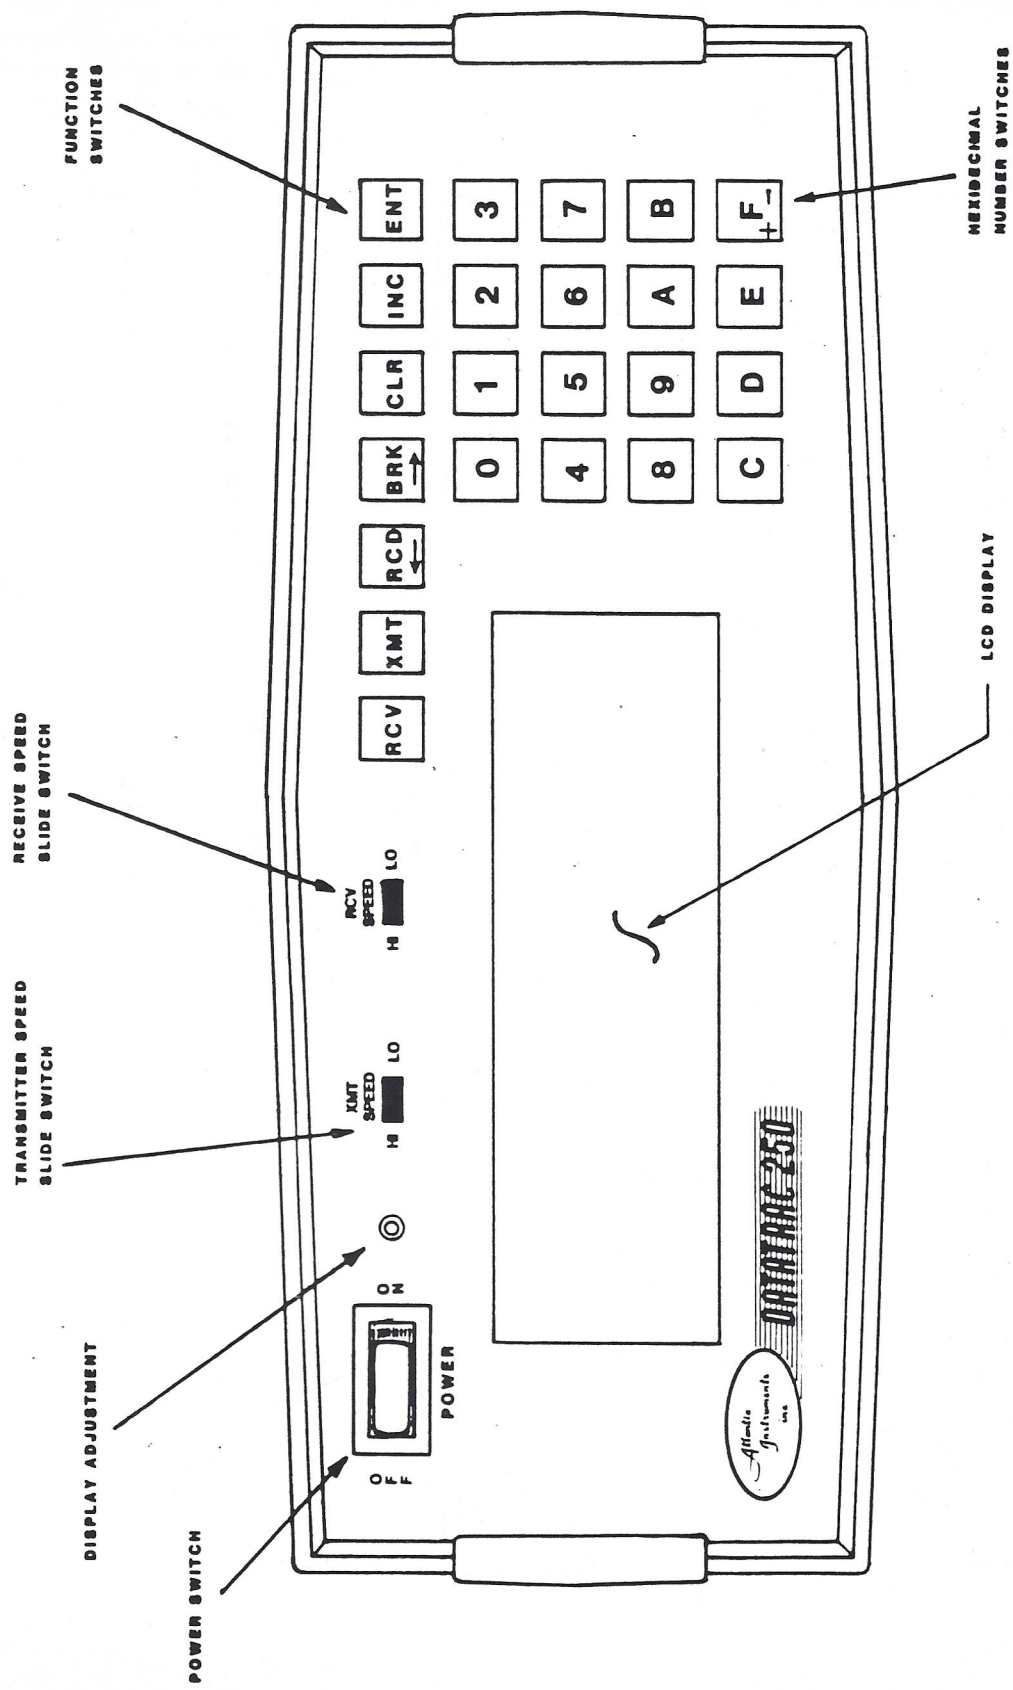

FIGURE 1-1
The front and rear views of the unit are illustrated in Figures 1-1 and 1-2, respectively. The eight line display allows viewing of many data words simultaneously. It also supports a highly simplified setup of functions through the use of menu screens.
The display may be adjusted for contrast and viewing angle with a pot located on the front panel next to the power switch as shown in Figure 1-1.
This section provides detailed instructions for operation of all functions of the DATATRAC 250. Independent subsections are dedicated to the two different bus standards: ARINC 429 and ASCB. A highly consistent format is used in the menu driven setup of all modes. Figures 1-1 and 1-2 containing illustrations of the front and rear views of the unit will be referred to frequently in the text.
Whether the operator has selected A429 or ASCB, four basic modes or functions are available to aid in the development and testing of the digital systems. These modes are receive, transmit, record, and break and are selected with the first four pushbuttons in the function row (top row of seven buttons shown in Figure 1-1). The user is prompted to select one of three functions, receive, transmit, or record, at this point in the setup. The break function is active only when the receiver has been setup and can not be selected here in the initial setup menu. After the initial selection of a function on this menu, the user may transition between functions by completing the current setup screen and then pushing the desired function button. The theory of operation remains the same for both modes with only slight variations for data format differences between A429 and ASCB.
The receiver speed slide switch is indicated in Figure 1-1 and must be set for either the 100 KHz (HI) or 12.5 KHz (LO) speed of the received bus.